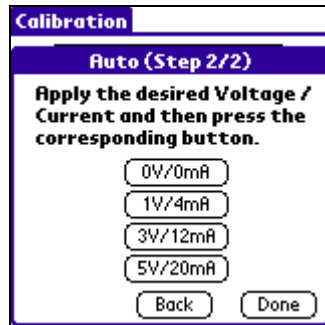

Figure 20
4. Apply the desired Voltage/Current and then *click* the corresponding button (Figure 20).